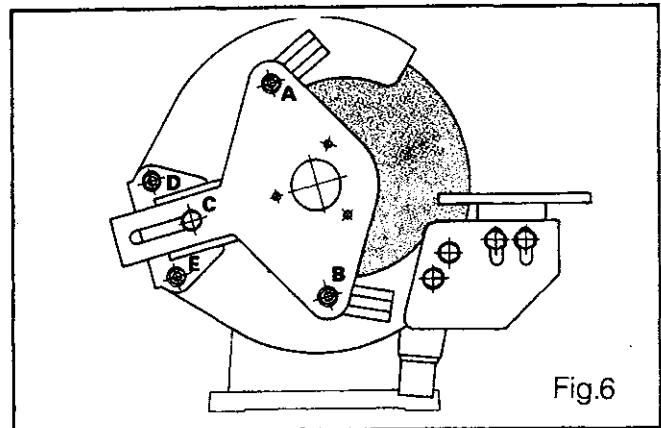
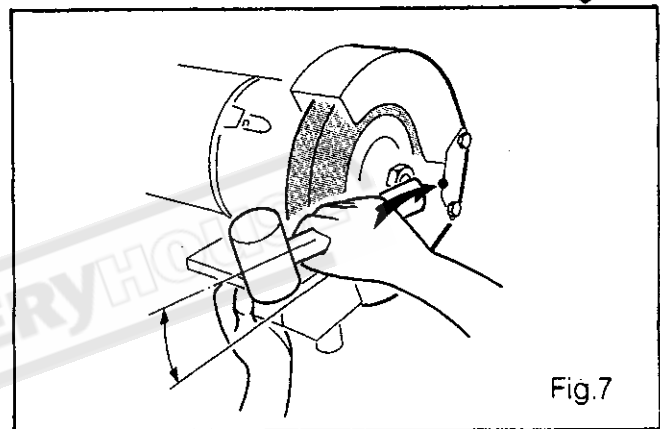

Fig.6
Fig.7
- 2 Loosen slightly bolts No. A / B / C / D / E indicated in figure 6. Use the bar of wooden hammer to knock the connecting plate of wheel covers as figure 7. Make sure the toolrest table was hold by another hand so as it cannot damage wheel.